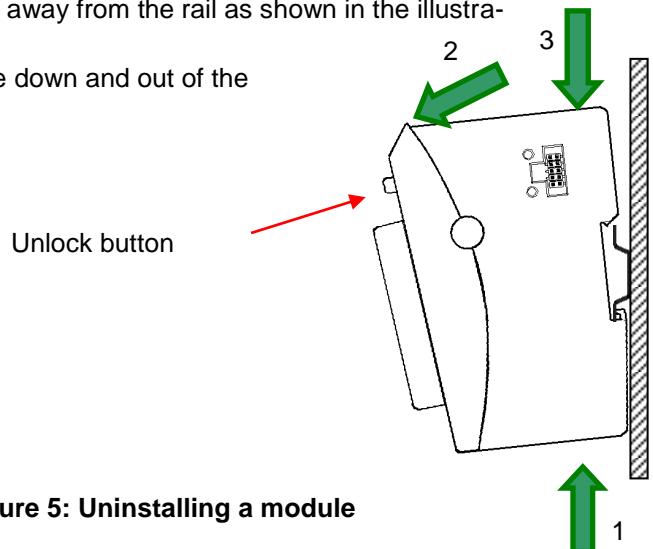

Figure 5: Uninstaling a module
- Push down the unlock button (see Figure 5) of the module that you wish to disconnect from the module to the left of it.